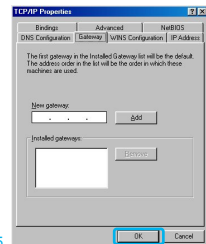

Figure 5
6. Select the **[Gateway]** tab and check there is no gateway installed. If there are installed gateways, delete them by clicking **[Remove]**. Click **OK**. (Figure 5)